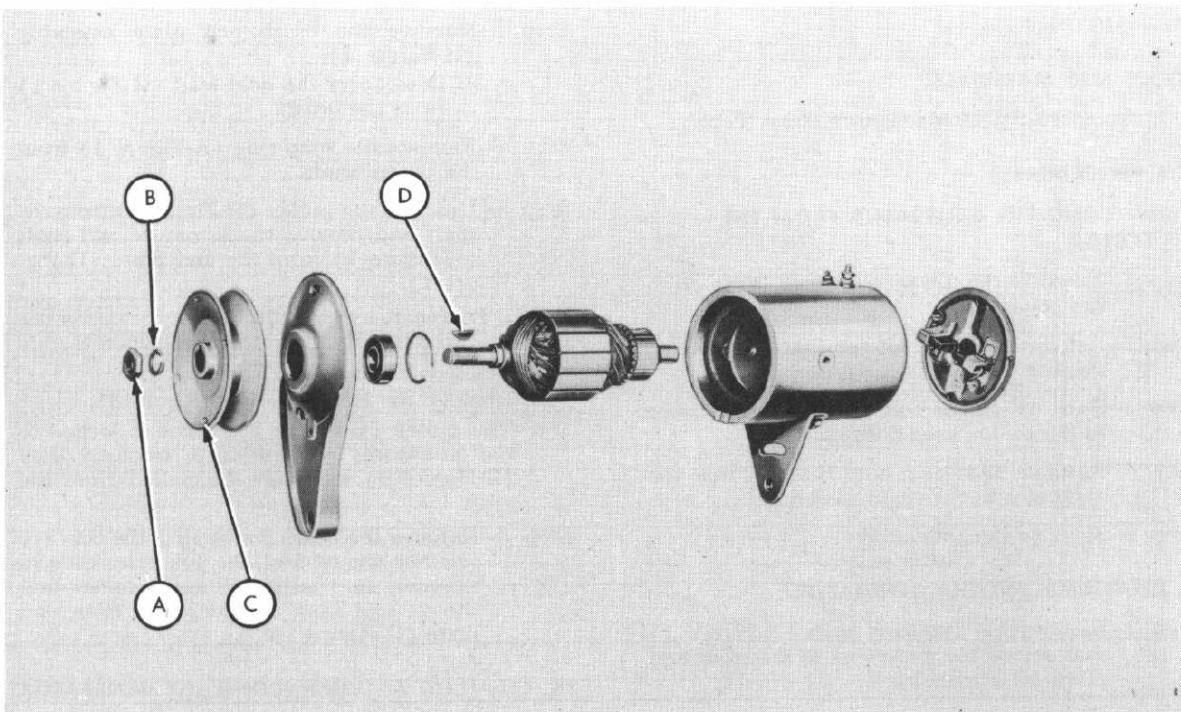

Fig. 3
- a. Remove the nut (A-Figure 3).
- b. Remove the lockwasher (B-Figure 3).
- c. The pulley (C-Figure 3), which is locked to the armature shaft with a woodruff key (D-Figure 3) may now be pulled from the shaft.